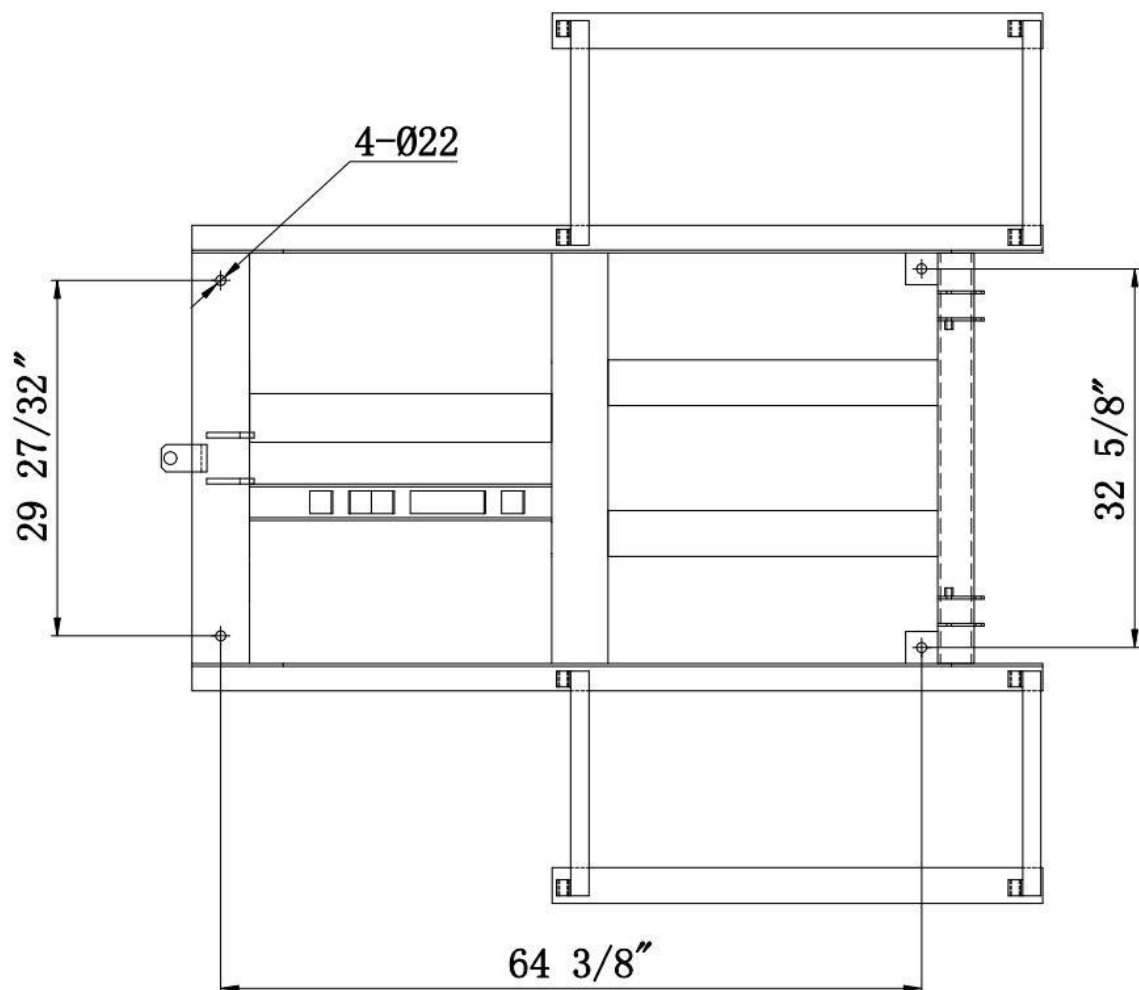

Fig.26
5. The machine is equipped with four fixing holes. If you want to fix the machine on the cement ground, can choose 3/4*5-1/2" anchor bolts See fig 26.